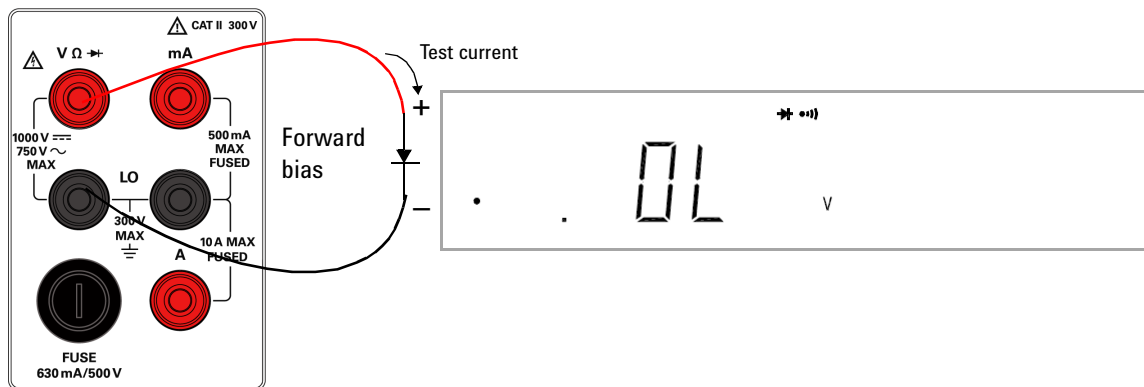
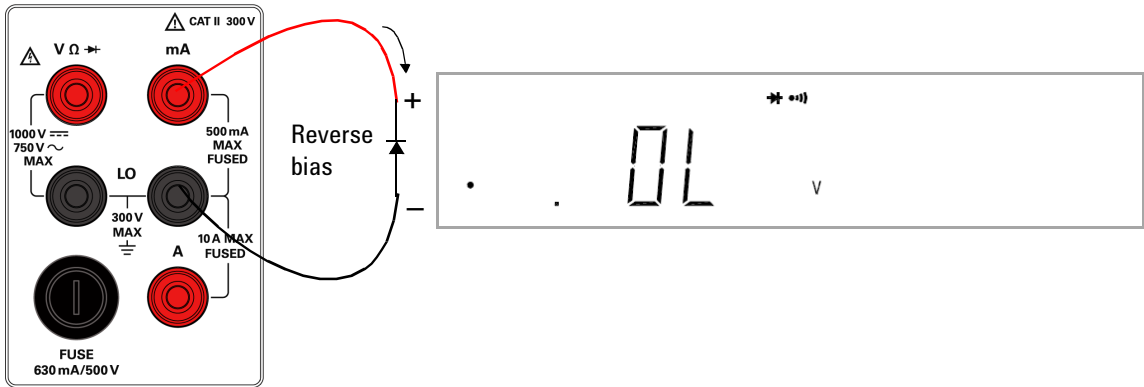

Figure 2-7 Forward-biased diode/continuity test terminal connection and display
Figure 2-8 Reverse-biased diode/continuity terminal connection and display
- 2 Connect the red and black test leads to the input terminal as shown in Figure 2-7 and Figure 2-8 respectively.
- 3 Connect the red test lead to the positive terminal (anode) of the diode and the black test lead to the negative terminal (cathode). Refer to Figure 2-8.
- 5 Reverse the probes and measure the voltage across the diode again (refer to Figure 2-8). Assess the diode according to the following guidelines: